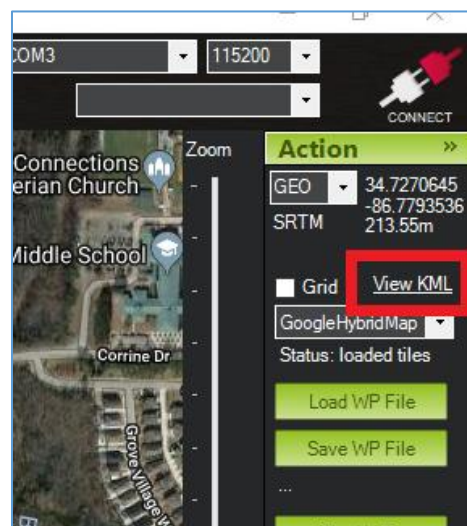

Figure 21 – Mission Planner - View KML
22. Click "View KML" (Figure 21) on the right side of the screen to download the KML file.